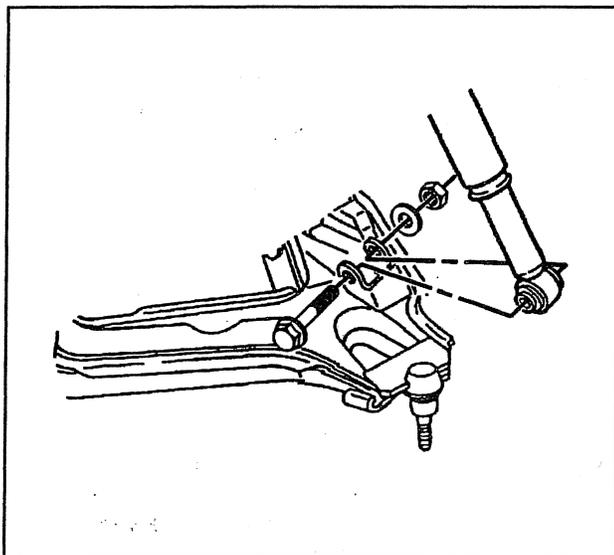

Figure 9—Disconnecting Lower Shock Mount
7. Lower shock mounting nut and bolt (Figure 9).
- Bolts (63) to 33 N.m (24 lb. ft.).
6. Stabilizer shaft link bolt assembly (62), spacer (56), and nut assembly (50).
8. Shock mounting bolt washer and nut (Figure 9).